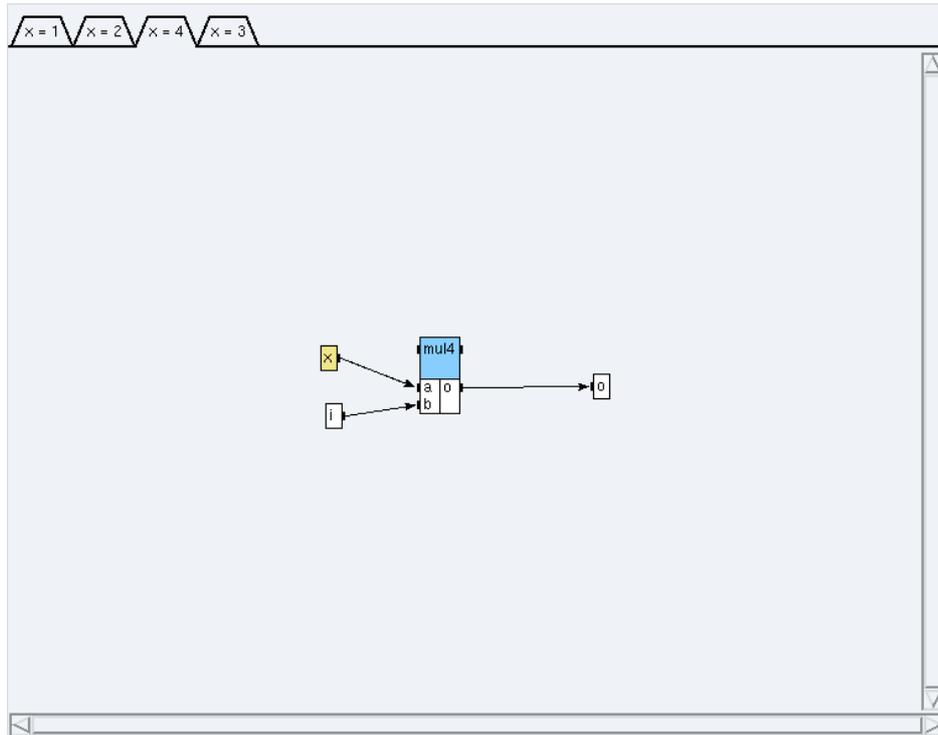

Figure 5.5: Condition x=4
- * click on the condition **x=4** (*cf.* figure 5.5) and create a reference `mul4<1>` to the definition `int/Arit_mul`;